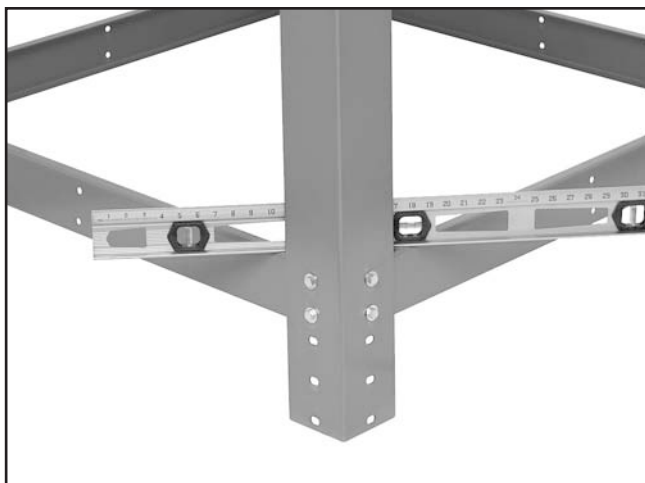

Figure 15. Level positioned on the upper stand.
4. Place the level across a corner of the lower stand braces and move the upper stand around until that corner is level, then fully tighten all of the fasteners for that corner (see **Figure 15**).